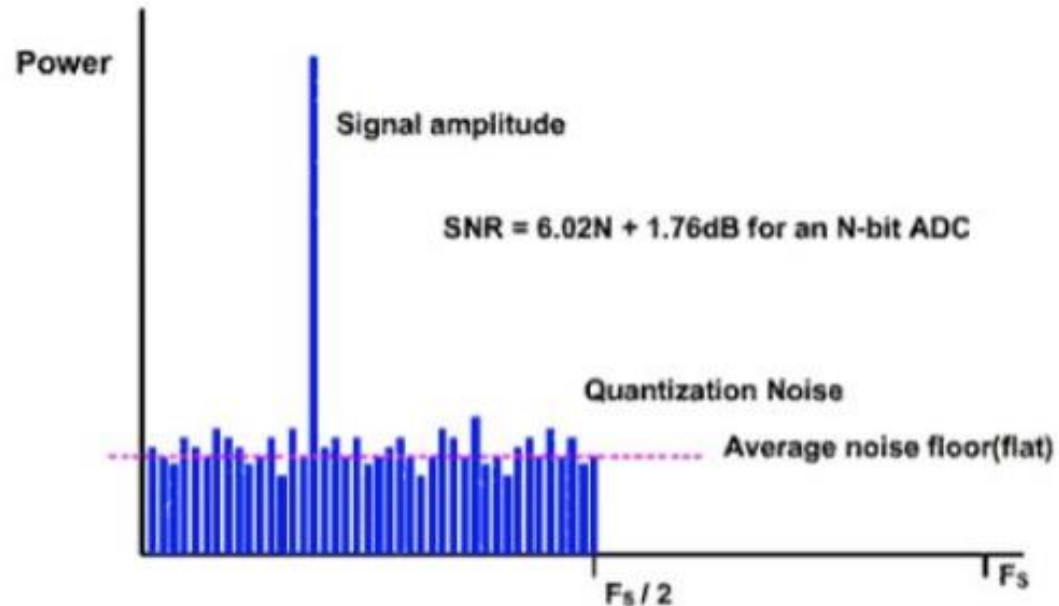

Fig.13 FFT diagram of a multi-bit ADC with a sampling frequency F_s
- When observing the result of an FFT analysis on the digital output, we see a single tone and lots of random noise extending from DC to $F_s/2$ (Fig.13).